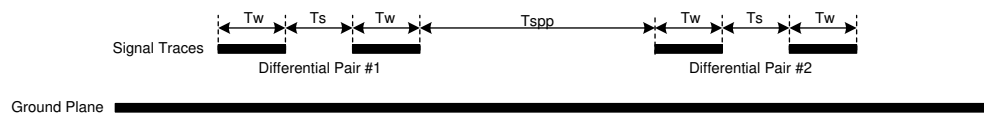

图 9-15. DMD Differential Layout Recommendations
DLPC6540 I/O timing parameters as well as DMD I/O timing parameters can be found in their corresponding data sheets. Similarly, PCB routing mismatch can be budgeted and met through controlled PCB routing. PCB design recommendations are provided in 表 9-7, 图 9-15, and the paragraph below as a starting point for the customer.
- (1) Recommendations to achieve the desired nominal differential impedance as specified by  $R_{DIFF}$  in 节 6.7.
- (2) These parameters show recommendations based on the micro-strip design shown in 图 9-15. This design minimizes signal loss to support longer trace lengths at the expense of electromagnetic interference (EMI). The designer has the option to use of a stripline design for shorter trace lengths and to target minimizing EMI at the expense of signal loss.
- (3) A reduced inter-lane spacing can be used to escape the Controller ball field, however, widen this spacing to at least the stated minimum after escape.